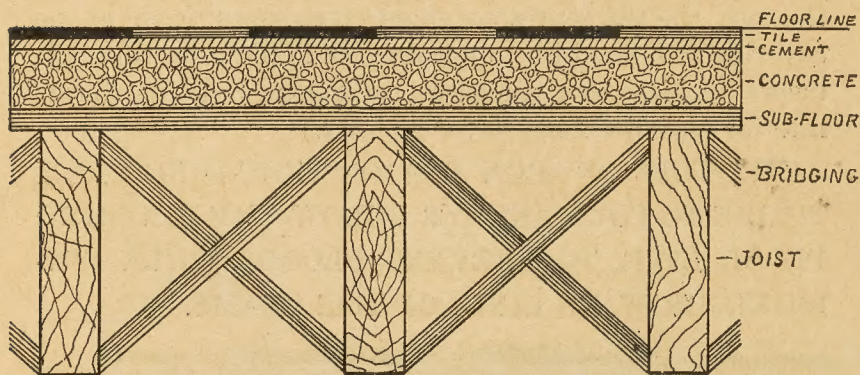

FIG. 1.
**FOR WOOD FLOORS.** When tiles are to be laid on wood flooring in new buildings, the joists should be set five inches below the intended finished floor line and spaced about 12 inches apart and thoroughly bridged, so as to make a stiff floor, and covered with one inch rough boards not over six inches wide (boards three inches wide preferred,) and *thoroughly nailed*, and the joints  $\frac{1}{8}$  inch apart to allow for swelling. (See Figure 1.) (A layer of heavy tar paper on top of wood flooring will protect the boards from the moisture of the concrete, and will also prevent any moisture from dripping through to a ceiling below.)